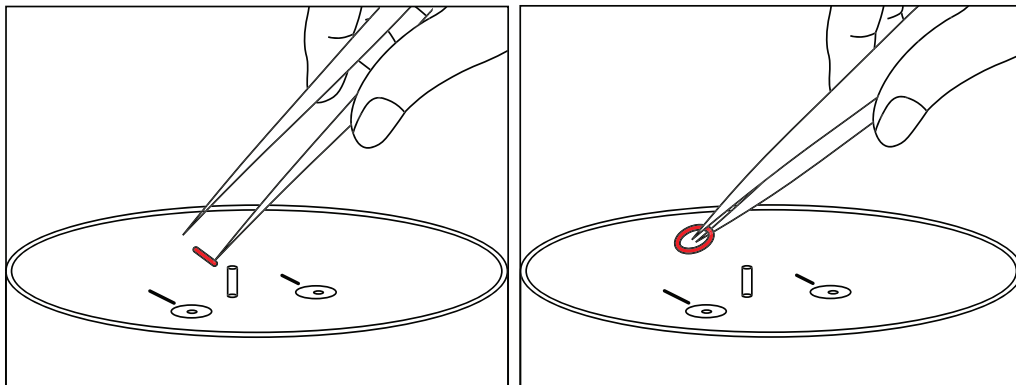

Figure 87 Changing the O-ring
1. Pierce the O-ring with tweezers to pull it out (Figure 87).